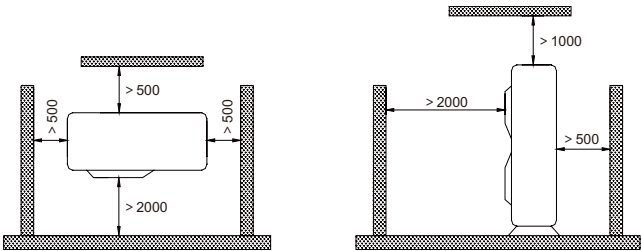

Fig.5
- 5) The installation space of the unit should be as required in Fig.5.